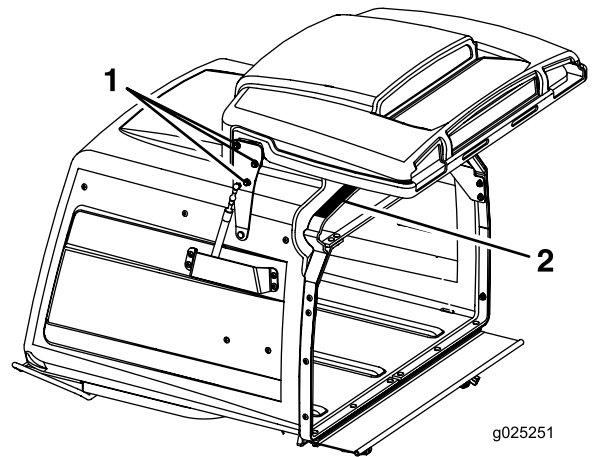

Figure 60
3. Loosen the 6 door hinge nuts (Figure 60).
4. Open the door and place a 3/8 inch (9.5 mm) rubber strip or 3/8 inch (9.5 mm) diameter hose between the hopper and the hopper door (Figure 60).